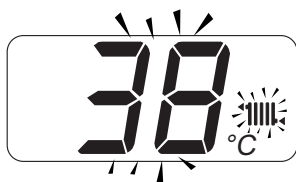

Fig. 2.7
- The heating hot water flow "set" temperature and the symbol  flash. The background of the display is illuminated (Fig. 2.7).